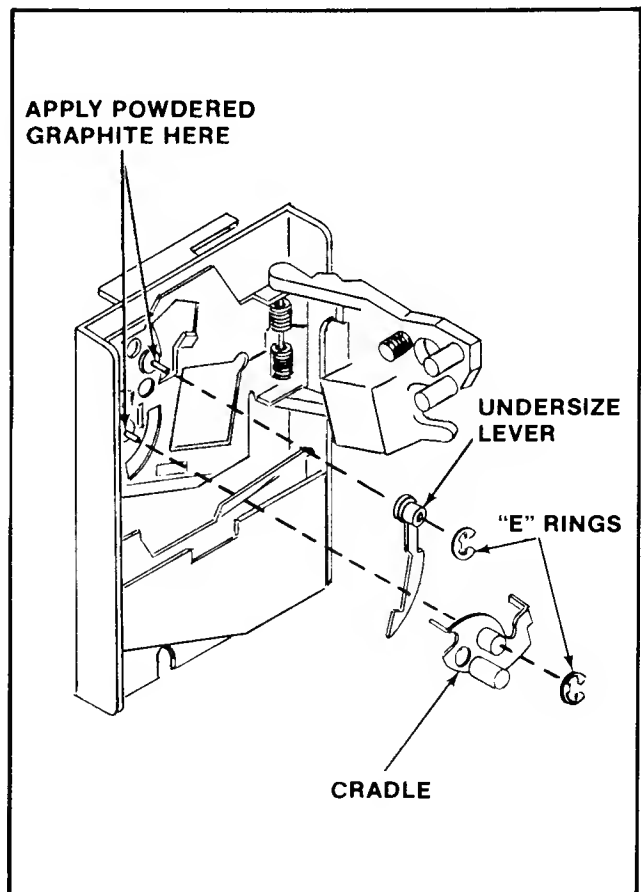

Figure 7-3 Lubricating the metal coin acceptor
- Use **ONLY** powdered graphite and put it **ONLY** on the moving parts of the coin acceptor. These parts are called out in Figure 7-3.